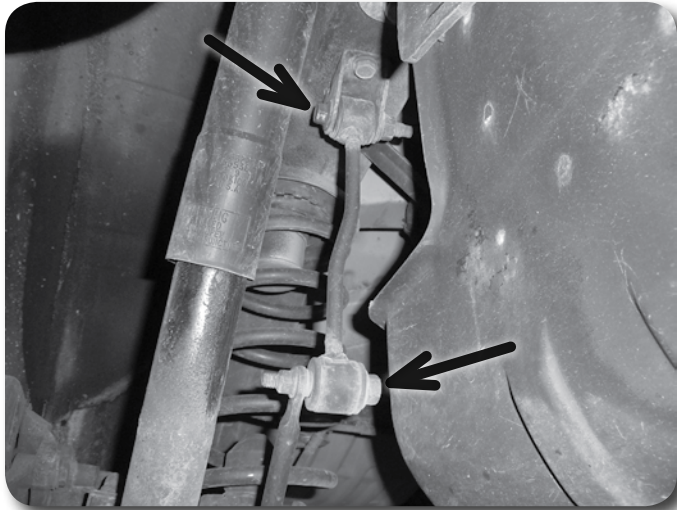

Figure 13
7. Disconnect the rear sway bar links from the sway bar and the frame. **Figure 13** Save the upper hardware, the lower hardware and links will not be reused.